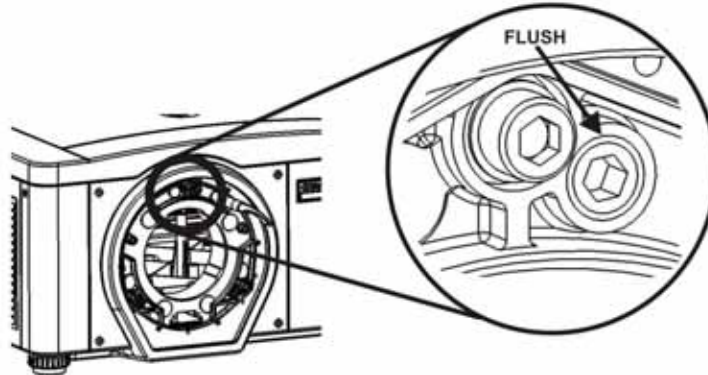

FIGURE 2-5 POSITION SETSCREW FLUSH
9. The original factory boresight can be approximately recovered, by positioning the 3 setscrews flush with the front face of the lens mount plate, and in contact with the inner lens mount plate, see **Figure 2-5 Position Setscrew Flush**. This may require adjusting both setscrews and cap screws.